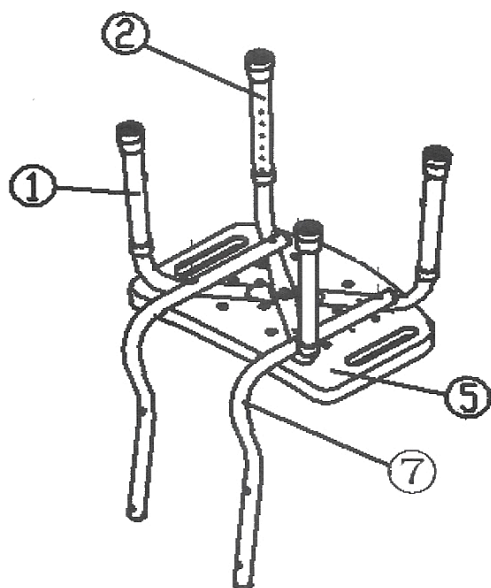

Figure 2
4. Align back support tubes above the seat legs. Refer to Figure 2.